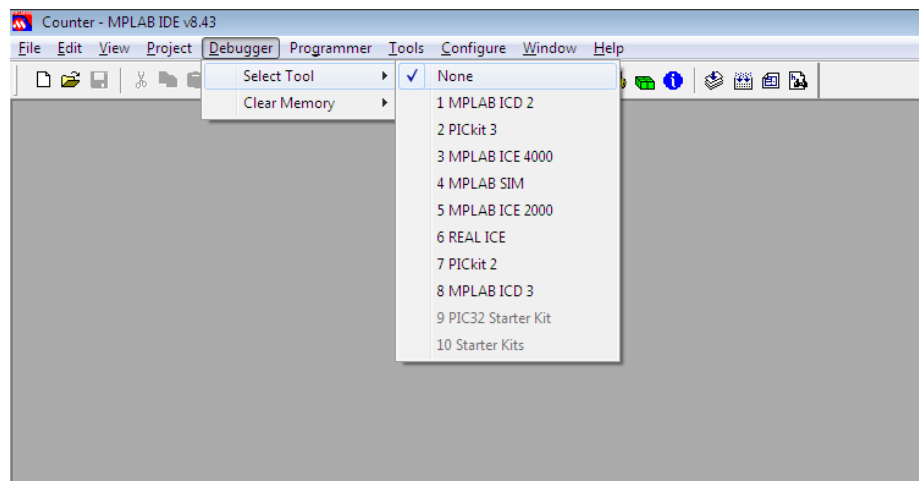

FIGURE 6-3
- 6.2.2** Start MPLAB IDE. If the MPLAB SIM debugger is loaded, select **Debugger -> Select Tool -> None** to unload it. See Figure 6-3.